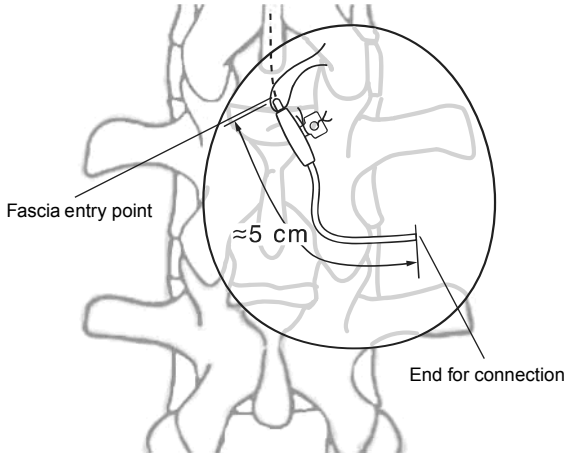

Figure 7. Trimming the spinal segment.
1. At the spinal incision site, trim the spinal segment of the catheter as necessary. Leave approximately 5 cm outside the fascia entry point to allow for patient movement and to prevent kinking (Figure 7).